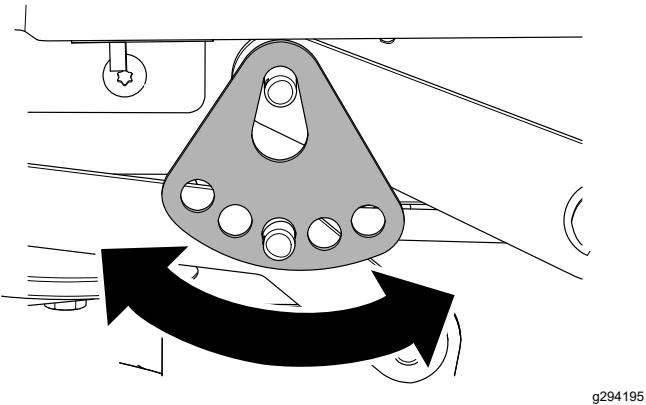

Figure 70
7. Rotate the height-of-cut plate to a different hole so that it supports the weight of the mower deck after you install the plate (Figure 70).